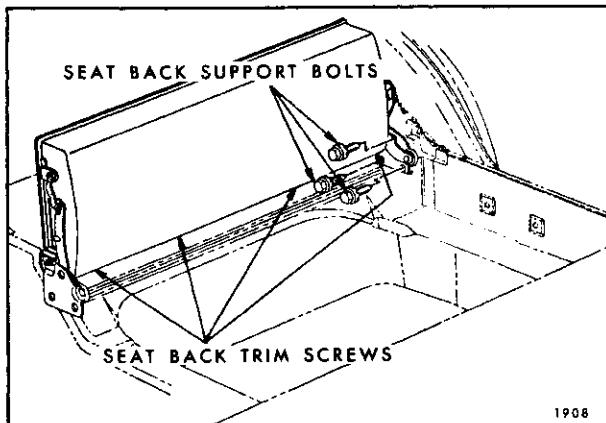

Fig. 15-59—Folding Third Seat Back
- Remove four screws securing lower edge of seat back trim to seat back panel. (See Fig. 15-59).